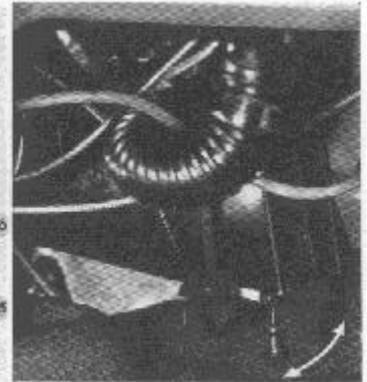

Fig. 8
- Fig. 8
### **Air Distribution Controls** (27, Fig. 8)